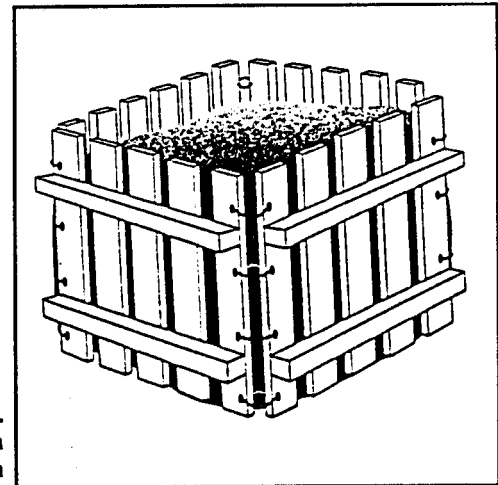

Figure 4. Wooden pallet bin
**Wooden Pallet Bins.** Four used wooden pallets (Figure 4) can be hinged or wired together for constructing a compost bin. The bin should be constructed with at least one removable side so that materials can be easily turned.